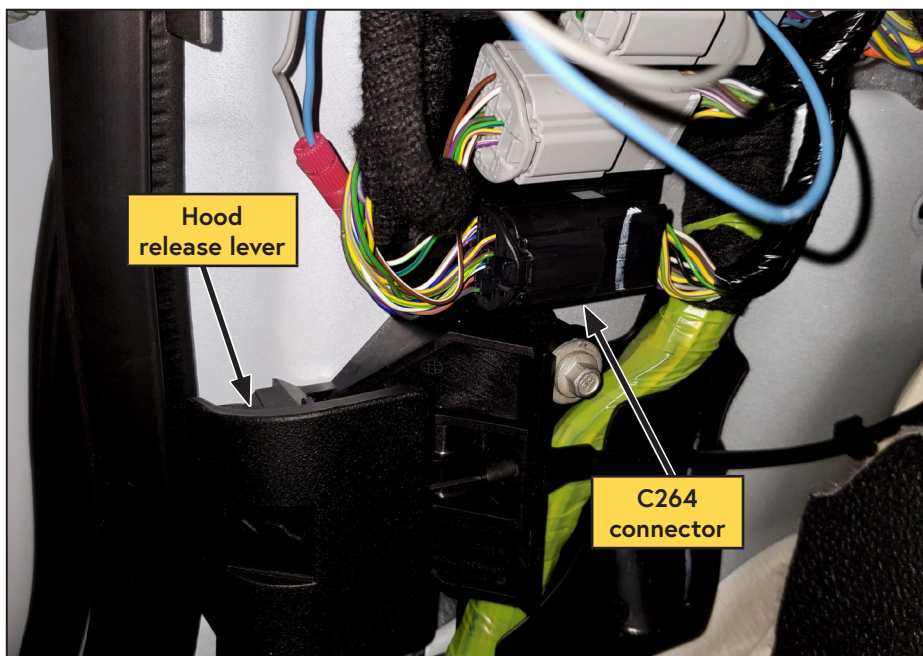

Figure 35 — Locate C264 connector
- Locate the black C264 connector (Figure 35).